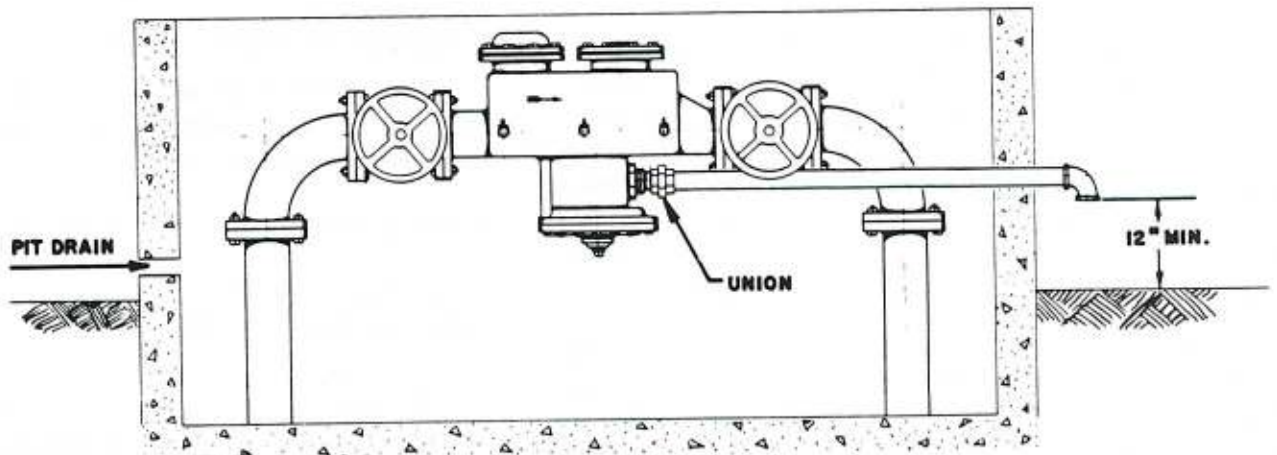

FIGURE 4
C. MODIFIED PIT INSTALLATION (Fig. 4)
Unless absolutely necessary, it is strongly recommended that backflow preventers *not* be placed in pits. In the event installation must be made in a pit, the modified pit type installation (Fig. 4) is preferable. The relief valve drain should be piped to the outside of the vault and discharged no less than 12" above the grade line.